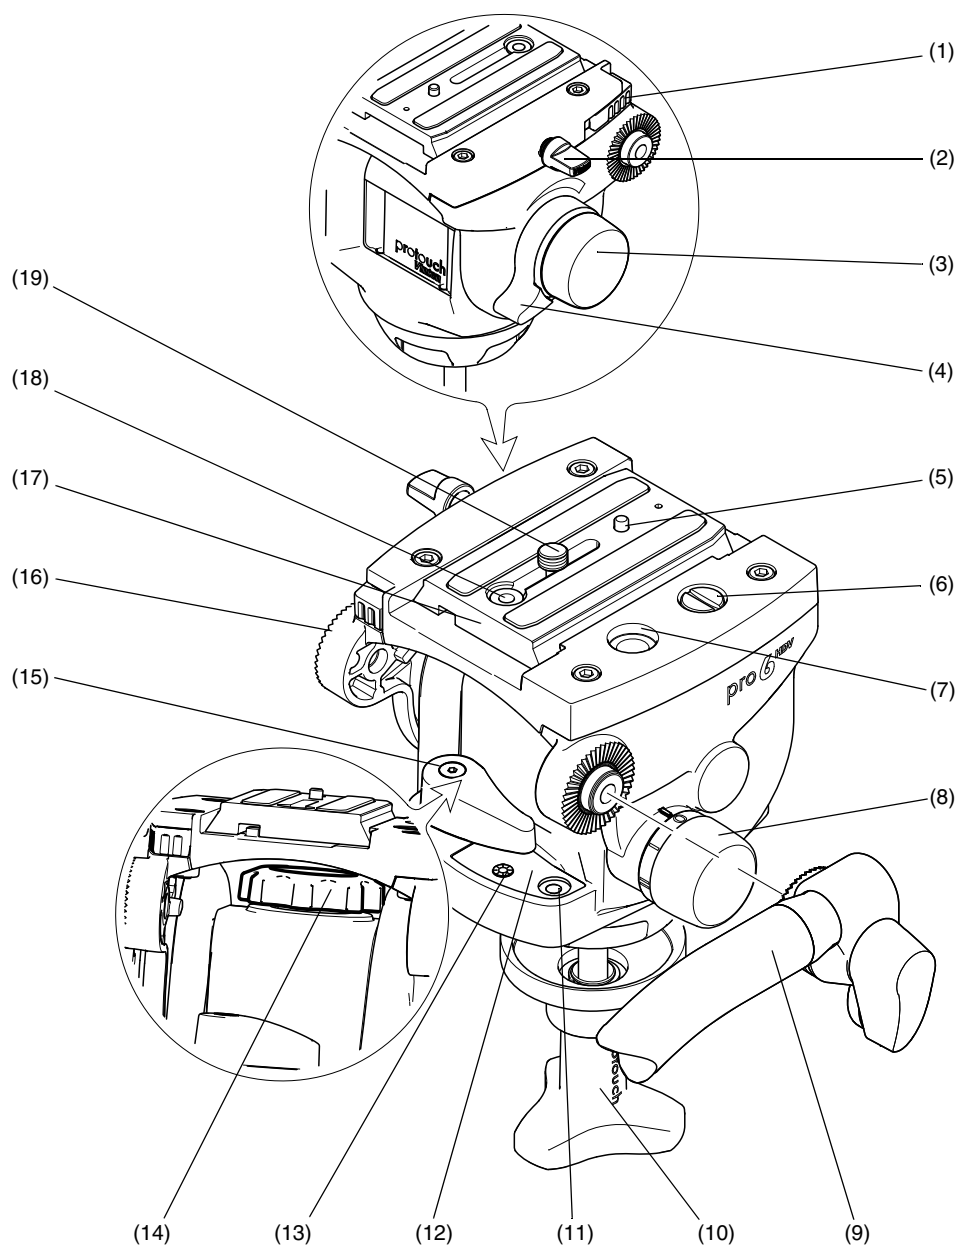
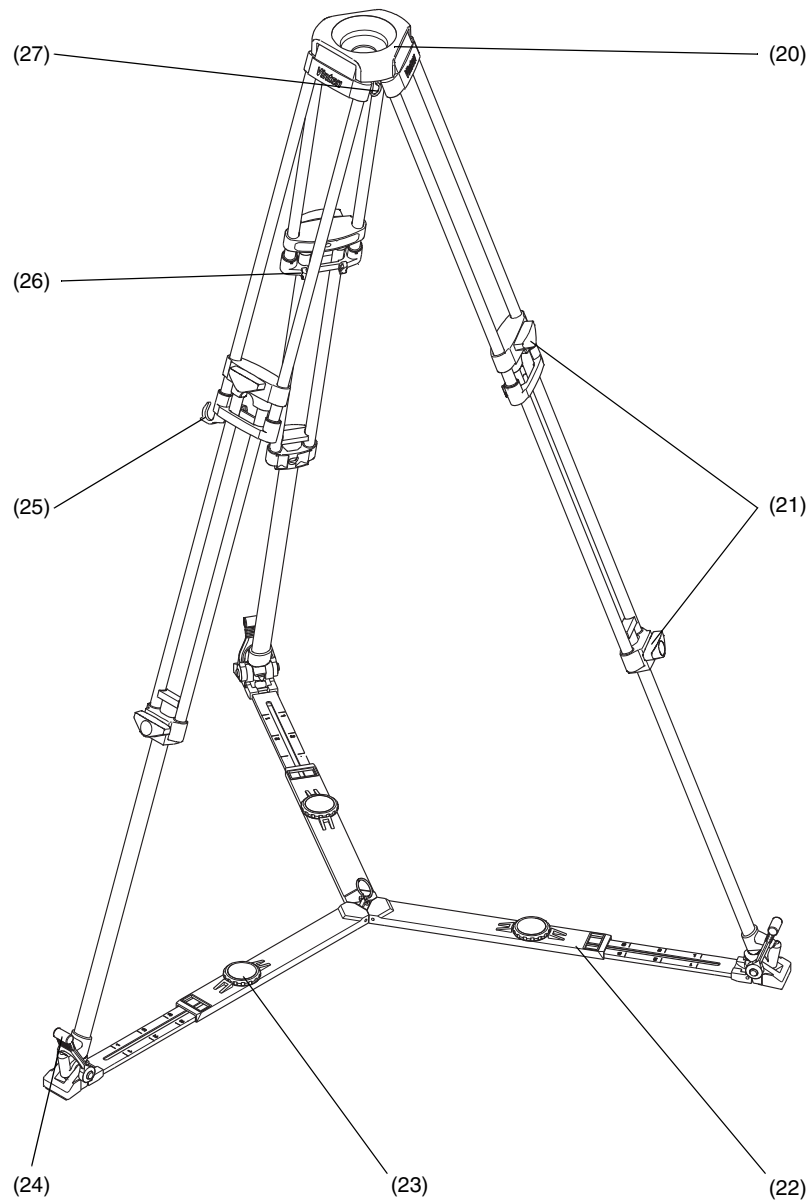
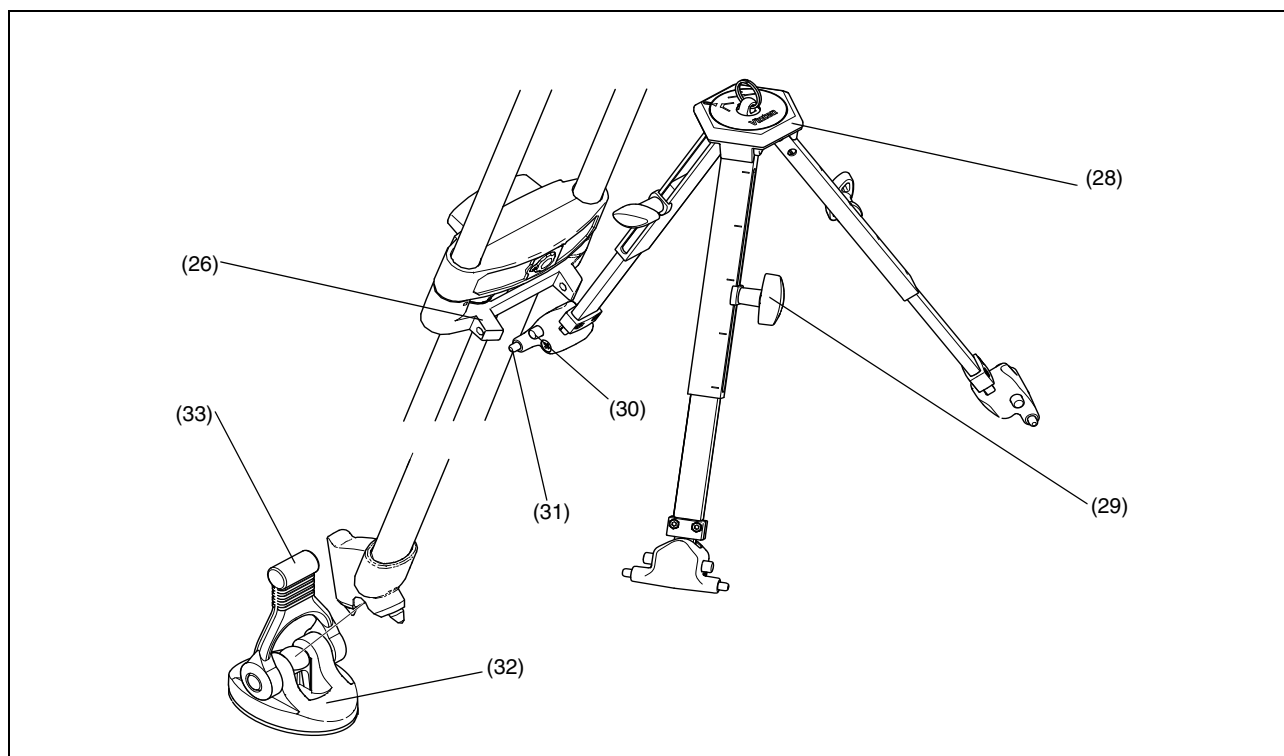

Fig 1.1 Pro-6^{HDV} Pan and Tilt Head
Fig 1.2 Pozi-Loc Tripod and Floor Spreader
Fig 1.3 Pozi-Loc Tripod and Mid-level Spreader
2 The Pro-6^{HDV} pan and tilt head (Fig 1.1) is designed to support the latest professional digital video cameras, up to 6 kg (13.2 lb) in weight. It embodies fluid drag assemblies for pan and tilt motions with brakes on each axis to lock the head in any position. An illuminated levelling bubble is fitted to the rear of the head and a quick-release, side-loading adjustable slide plate is provided for camera mounting. A single fixed pan bar is supplied.
9 The Pozi-Loc two-stage tripod (Fig 1.2) has aluminium legs and a 75 mm levelling bowl (20). It is fitted with the highly-efficient Pozi-Loc leg clamp (21), which provides quick set-up and easy adjustment.
10 Depending on which Pro-6^{HV} system was purchased, the tripod is supplied with either a floor spreader (Fig 1.2) or a mid-level spreader (Fig 1.3). Both tripod spreaders increase the rigidity of the tripod.
11 The Pro-6 HDVF system utilizes a floor spreader (Fig 1.2) which, being flexible, compensates for uneven ground, protects floors and carpets and prevents the tripod legs sinking into soft ground. It should be used at all times.
13 The Pro-6 HDVM system utilizes a mid-level spreader (Fig 1.3) which fastens to the attachment points (26). There are two spread settings, controlled by a knob (28), and the arm lengths can be adjusted using the extension clamps (29) to compensate for uneven ground. A set of three feet (32) are also supplied with this
- 1 To identify components, please refer to Fig 1.1 and Fig 1.2 and Fig 1.3
- 3 To install the floor spreader Fig 1.2:
5 To install the mid-level spreader (Fig 1.3):
8 The Pro-6^{HDV} pan and tilt head (Fig 1.1) is supplied with a 75 mm ball mount. Adaptors are available which enable the head to be installed on tripods or pedestals fitted with other mountings. These are listed under 'Optional Accessories'.
10 Remove the slide plate (17) from the head (Fig 1.1) by releasing the slide plate clamp (2), pressing the slide lock release (1) and lifting the plate upward.